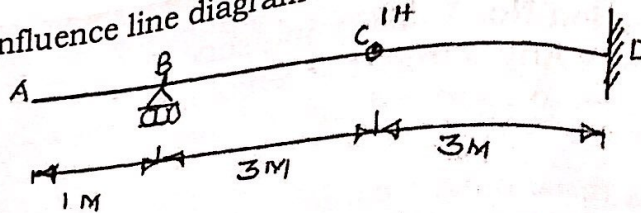

Fig. 4
Q.3 a) Draw influence line diagram for V_B , V_D & M_D . Ref. Fig. 4